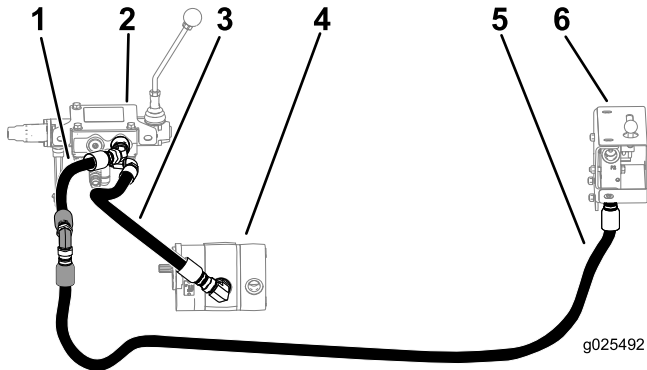

Figure 26
1. Remove the hose that is currently installed onto the first port of the hydraulic gear pump, add a connector to the hose fitting, and connect the hose and connector to the 15-inch hose (Figure 26).
4. Connect the 36-inch hose to the hydraulic gear pump to the pressure (P/IN) port on the valve (Figure 26).
1. Remove the hose that is currently installed onto the first port of the hydraulic gear pump, add a 90-degree connector to the hose fitting, and connect the hose and connector to the 15-inch hose (Figure 26).
5. Connect the 28-inch hose to the hydraulic gear pump and to the P-port on the valve (Figure 26).